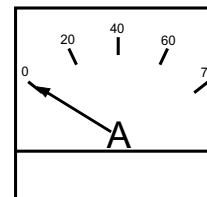

Figure 24. Ammeter (No Load)
8. The ammeter (Figure 24) will indicate zero amps with no load applied. When a load is applied, this meter will indicate the amount of current that the load is drawing from the generator.